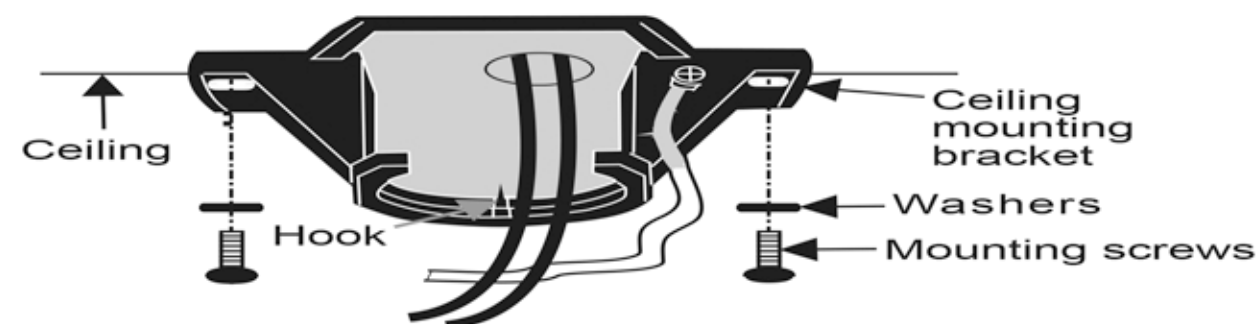

Fig.3
Step 3. Attach the ceiling mounting bracket to the outlet box using the screws and washers included with the outlet box. (Fig. 3)